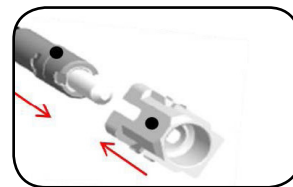

Figure 2
Step 2: Align the black mark on the inner housing with the black line on the connector, then rotate the inner housing 45 degrees to offset the lock (**Figure 2**) and slide the inner housing half way over the connector.